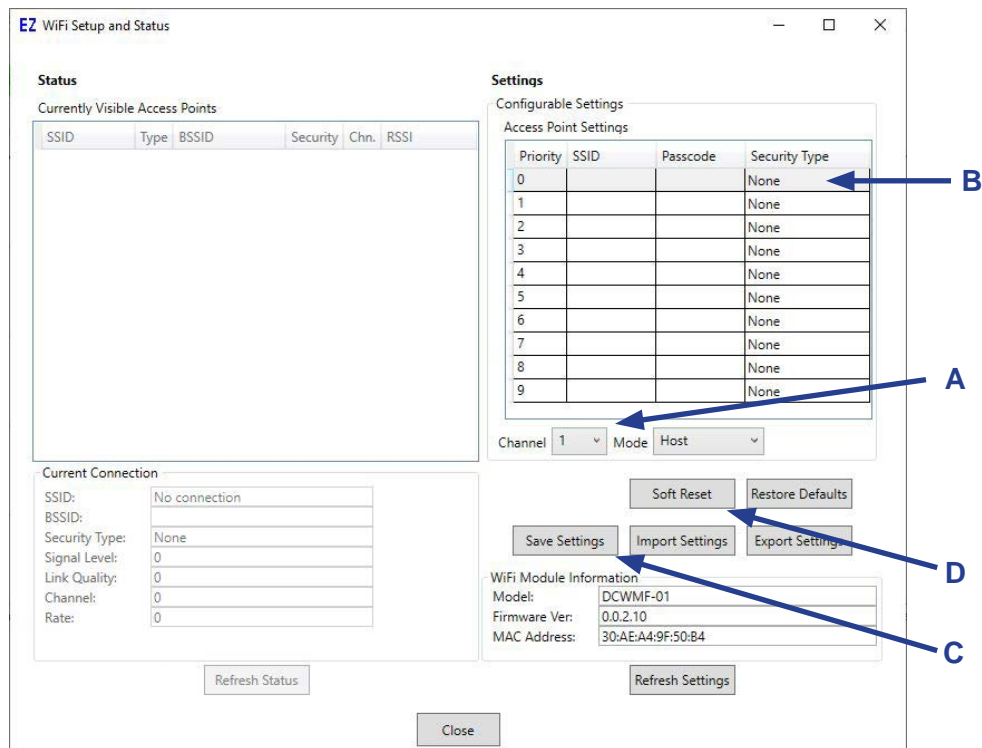

Figure 19-16
7. Refer to Figure 19-16 for the rest of the configuration.